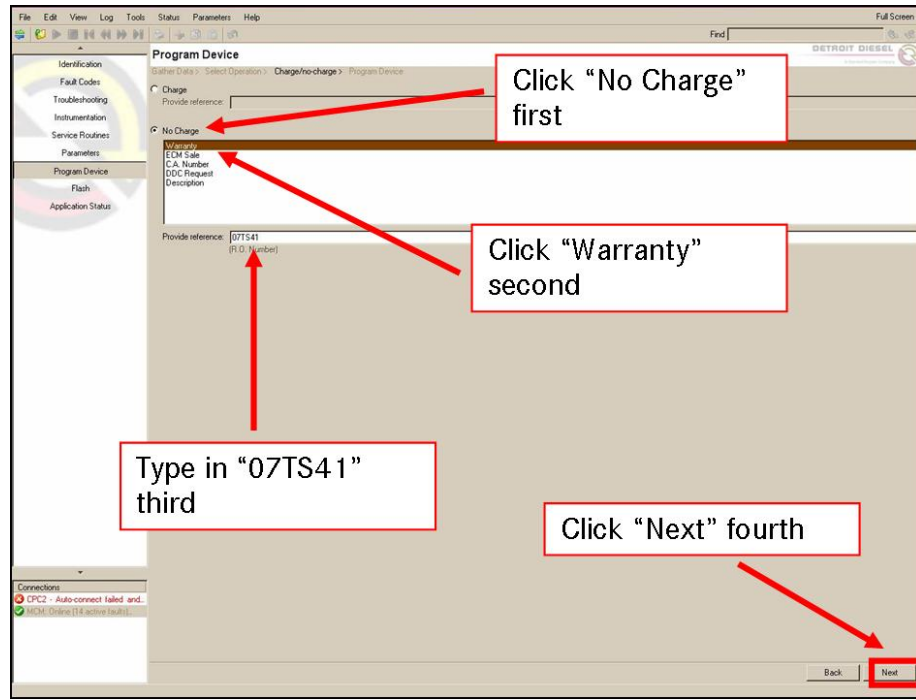

Figure 7
- h. Click on the “No Charge” button, click on “Warranty”, type in “07TS41” in the “Provide Reference” box, click the “Next” button in the bottom right corner. See Figure 7.